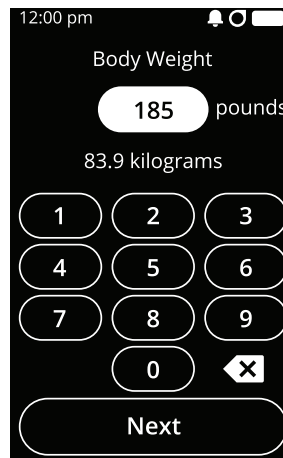

Figure 70
- Enter your body weight to the nearest pound. Tap **Next** to continue (see Figure 70).